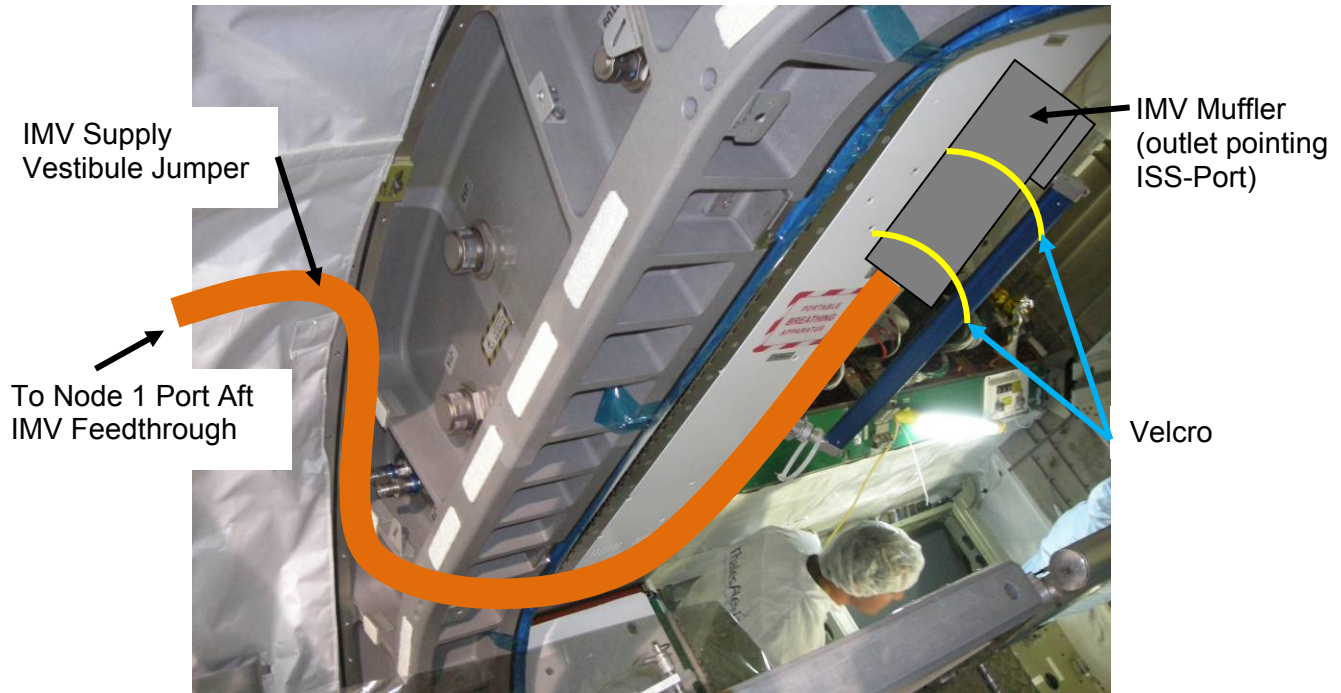

Figure 2.- IMV Supply Vestibule Jumper Temporary Install (View Looking Aft-Port).
- 2.1 Remove IMV Supply Vestibule Jumper from temp stow location. Refer to Figure 2.